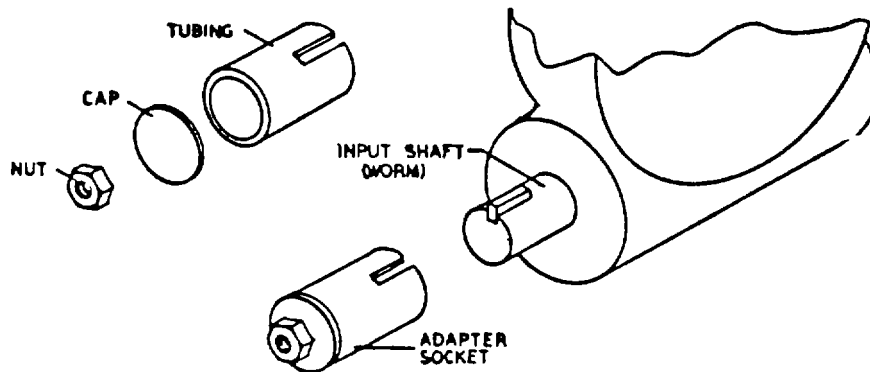

Figure 6-3. Adjustment Adapter
- b. A torque wrench can be equipped with a special adapter to fit the input shaft (worm) of the winch. The adapter can be made by welding a nut to the end of a piece of tubing as shown in figure 6-3.